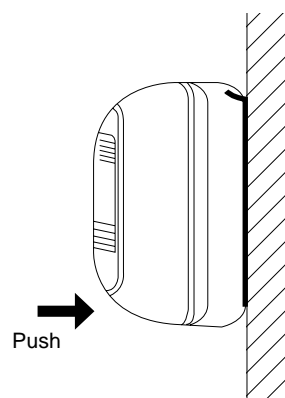

Fig. 24a
- (1) To install the indoor unit, mount the indoor unit onto the tabs on the upper part of the rear plate.
- (2) Hold down the air discharge outlet and press the lower part of the indoor unit until it clicks to securely fasten to the 2 tabs on the lower part of the rear plate. (Fig. 24a)